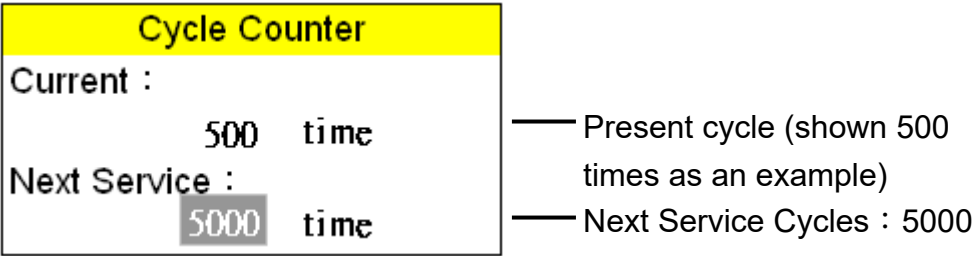

Figure 127
B. Press  button to the editing mode as shown in Figure 127.